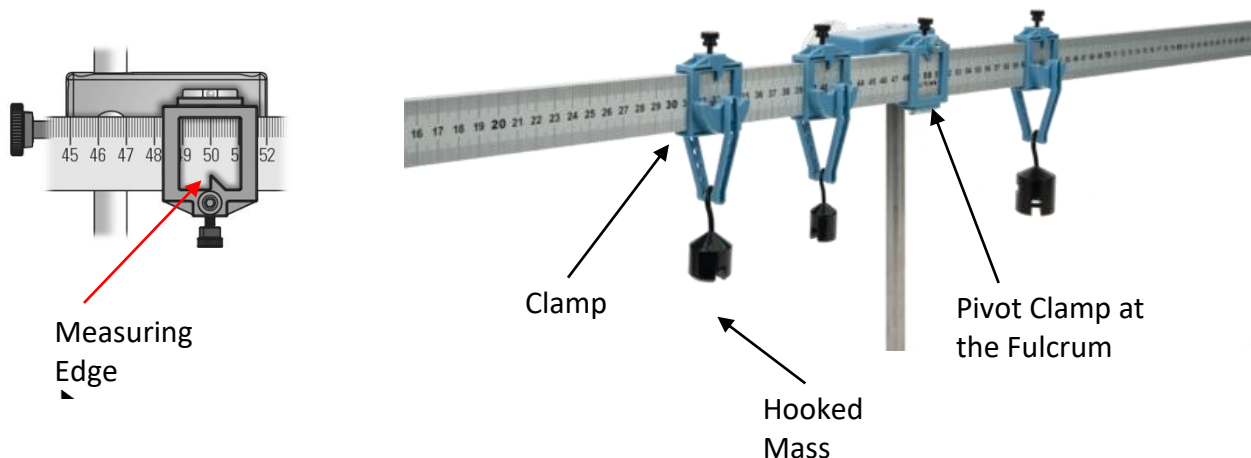

Figure 5 – Torque Equipment
The equipment for this experiment is shown in Figure 5. Note each Clamp has a Measuring Edge to get the position needed. Your equipment should have started disassembled on the desk.
- A) Locate the Aluminum meter stick and the Pivot Clamp that attached to the rotary motion sensor at the Fulcrum, see Figure 5. Before you begin get the mass of that meter stick using a digital scale, unless your instructor decides to provide it for you.